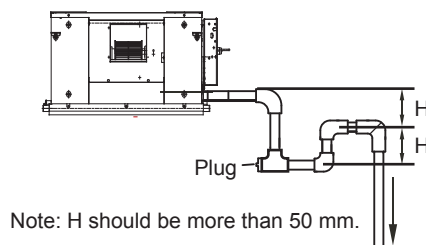

Figure 5.3 Schematic of water storage elbow
- (1) For a water discharge duct connected to the main drain pan in the indoor unit, the water discharge piping must include a water storage elbow to prevent loading pressure from building up and causing poor water drainage, water leaks, or water being discharged out of the air outlet duct when the indoor unit is running.
- (2) In a scenario where the indoor unit runs continuously for long periods (48 hours or more), continuous operations, or where the relative humidity of the air is 85% or higher, connect the water discharge piping of the secondary drain pan to the main water discharge piping, and then install the water storage elbow. Install the water storage elbow as shown in Figure 5.3. Install it in such a way that it is easy to clean.